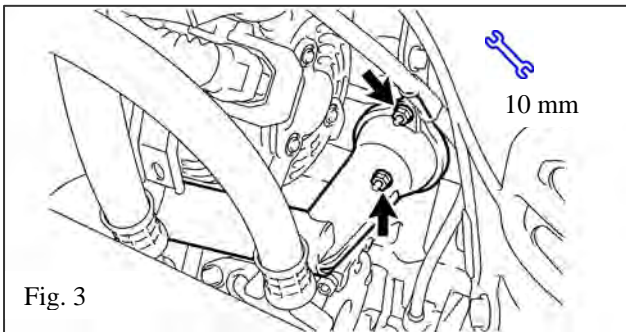

Fig. 3
- (e) **Remove OE Thermostat** housing and factory 82° C (180°F) thermostat. (Fig. 3.) Note: You may need to temporarily remove oil dipstick for better access. Use OE rubber thermostat gasket and place onto the TRD supplied 71°C (160°F) thermostat.